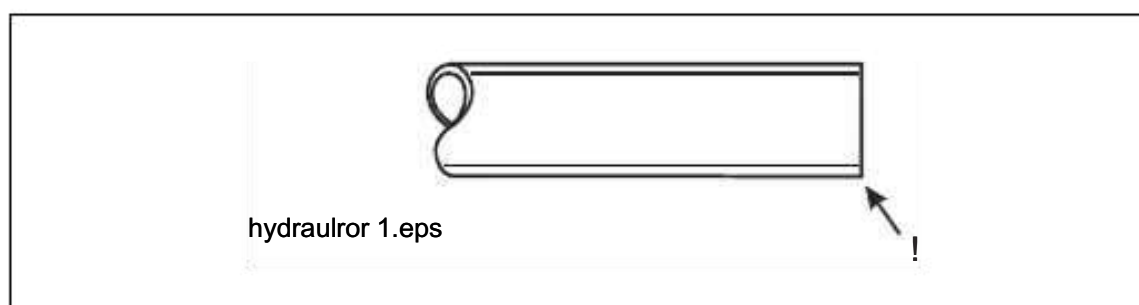

**Figure 8.17** Cut at right angles!
1. The pipe should be cut at right angles by means of a pipe cutter (see figure 8.17 and 8.18) after which it is deburred internally and externally, and carefully cleaned.